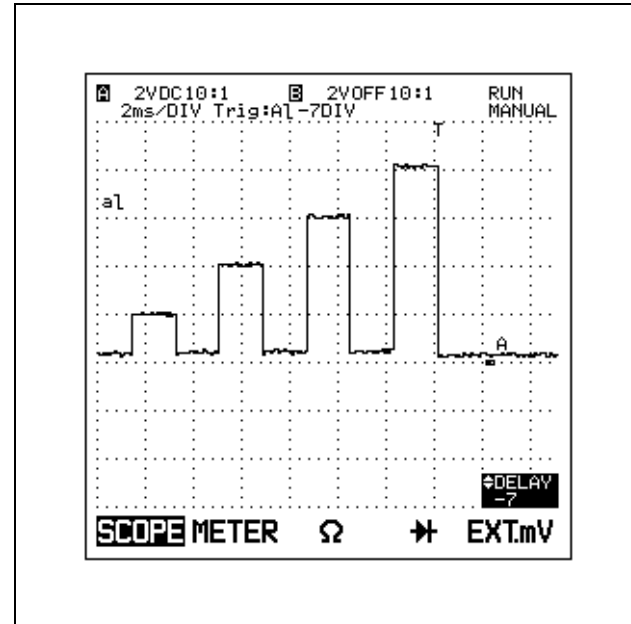

Figure 8-8 Time Delay -7 Divisions
10. Use **▽** to adjust the time delay to -7 divisions (refer to Figure 8-8).
Adjusting the time delay to -7 divisions has moved the trigger point to the seventh division on the display, and you now see seven divisions of information that occur before the trigger. (See Figure 8-8.) You can use Zoom to look at the falling edge detail of the 50% pulse. The Zoom function expands the trace referenced to the fourth time division and automatically adjusts the delay.